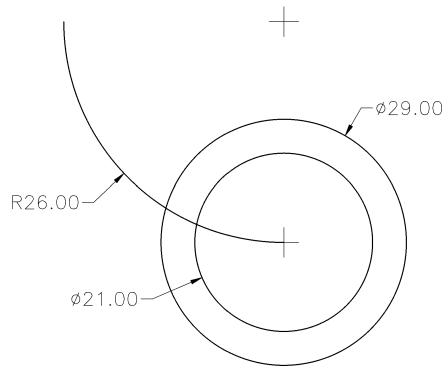

Figure 3-126 Sketch for base pipe feature
6. Draw the cross section and path of the sweep feature, as shown in Figure 3-126.